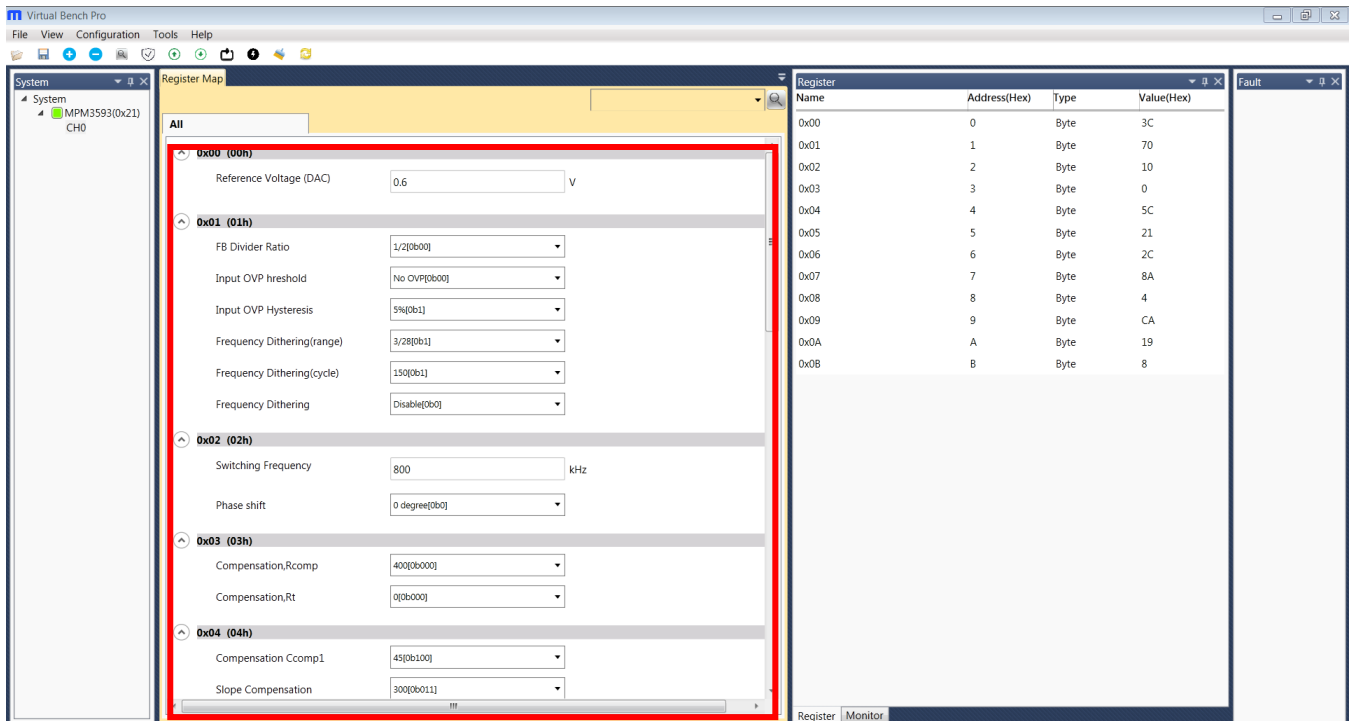

Figure 7: Values in the Register of the Module are Displayed
2. **Figure 6: Green Indicator Shows Successful Connection** The Register Control menu will appear in the middle panel. The values stored in the registers of the module will be read automatically (see Figure 7).